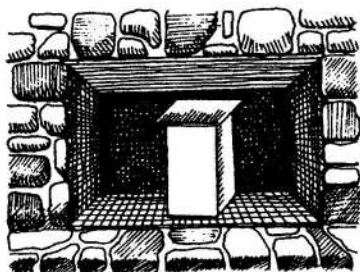

Fig. 1
2. For trial fitting of the adapter, a platform can be made from the box which the adapter comes in. Measure the height of the stove and add 1". Cut box to this height. This will aid in the installation of the adapter without the heavy lifting that goes with trial fitting the adapter on the stove. (Figure 1).